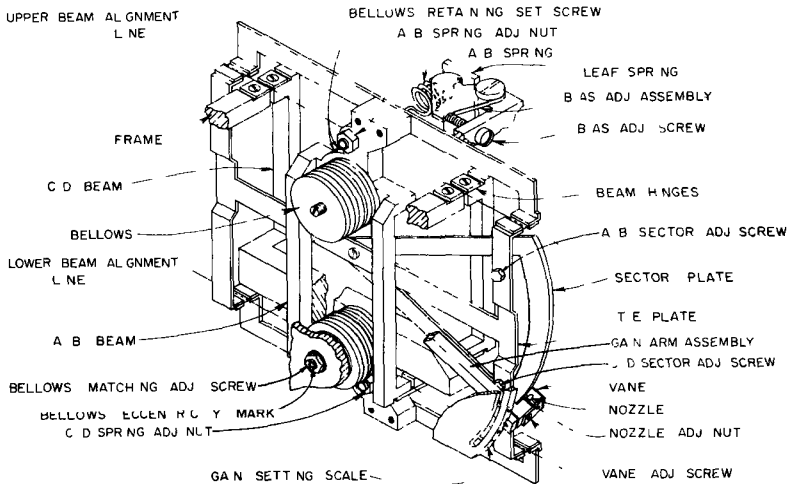

FIGURE 7 Controller Adjustments
10. Turn A-B bias adjustment screw until the plate hinges are in line with hinges on C-D beam (see upper beam alignment line, Figure 7).
11 Remove indicating panel (Item 20 in Figure 32) and turn C D sector screw until the plate hinges are in line with hinges on A B beam (see lower beam alignment line, Figure 7)
NOTE Large nozzle adjustments may disturb parallel relationship of vane and sector plate. To readjust vane, loosen vane adjustment screw (Figure 7) and slide vane support until vane appears to be approximately parallel to sector plate.